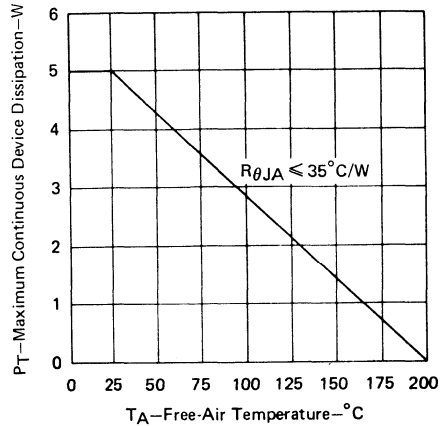

FIGURE 6
4. Derate linearly to 200°C free-air temperature at the rate of 28.6 mW/°C or refer to Dissipation Derating Curve, Figure 6.